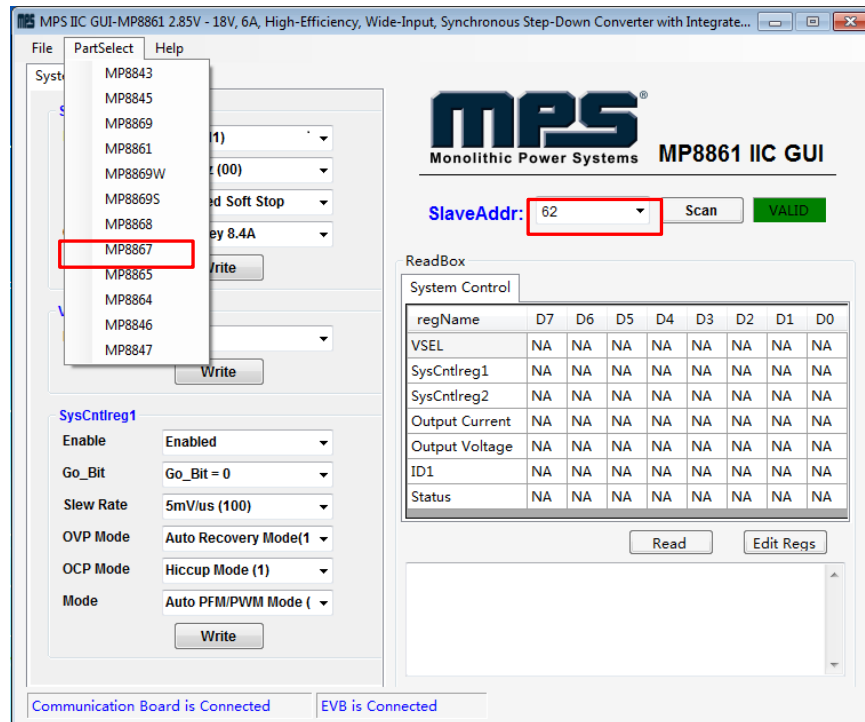
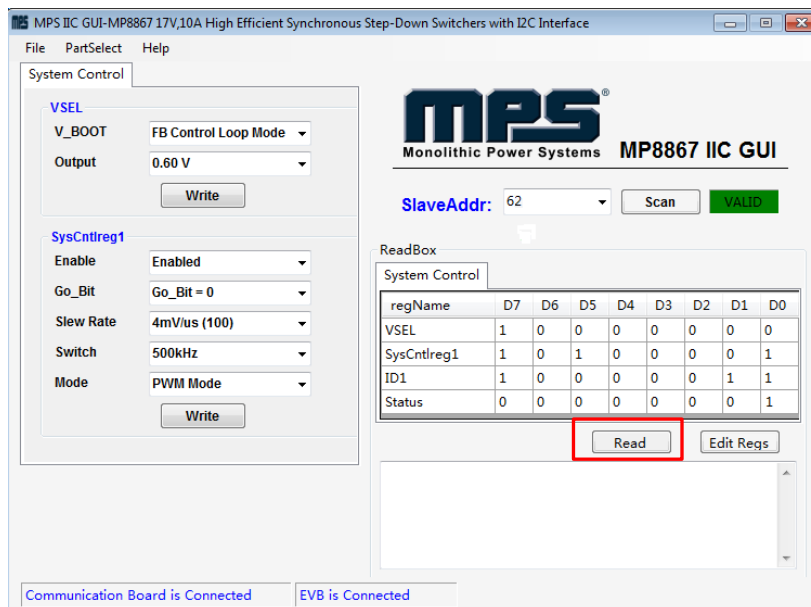

Figure 7: Appearance of Address Shows Successful Connection
Figure 9: Values from I2C Shown in Table
- If the connection is successful, the address will be listed in the “Slave Address” (see Figure 7).
- Click the **PartSelect** button to select the MP8867 (see Figure 7) (The default GUI window is for the MP8861). The Register Control menu will appear on the left side. I2C register values will be read and displayed on the right side after clicking **Read** button (see Figure 9).